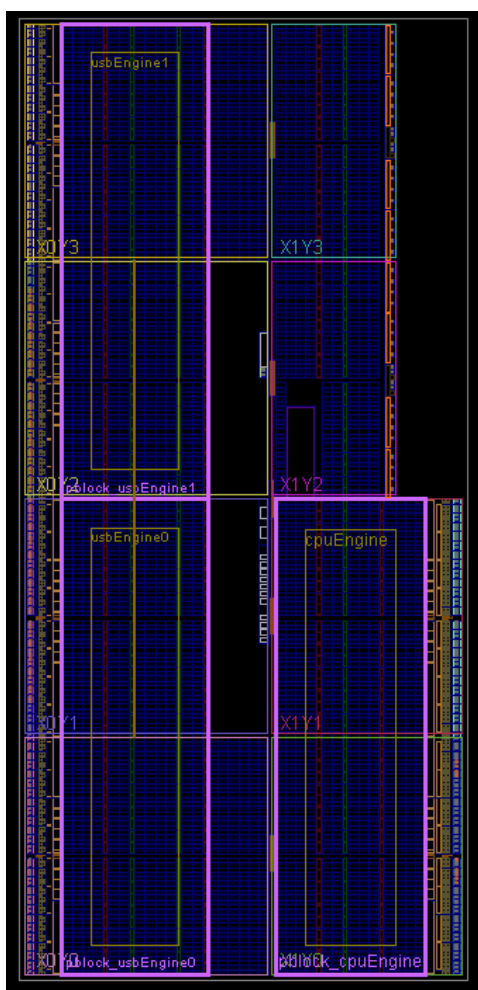

Figure 6: Completed Floorplan for Pblocks usbEngine0, usbEngine1, and cpuEngine
1. In the Flow Navigator, click **Run Synthesis**, as seen in Figure 6.